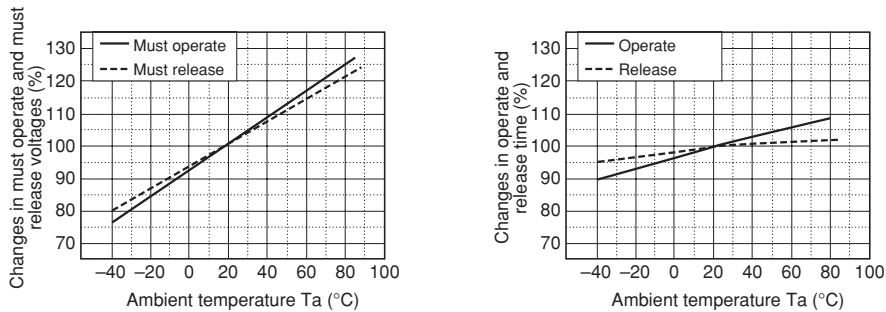

Figure 11 Temperature Characteristics of Relay (Example)
- ① Generally, use the relay in the specified temperature range at less than the maximum ratings. Note, however, that the maximum must operate voltage of the coil changes with temperature, and must be confirmed before the relay is used (refer to (2) in "Maximum applied voltage").
- ② The operating characteristics of the relay change with ambient temperature (refer to figure 11 below). Confirm the temperature condition in the application set where the relay is to be used. For the temperature characteristics of a relay, refer to Technical Documents.